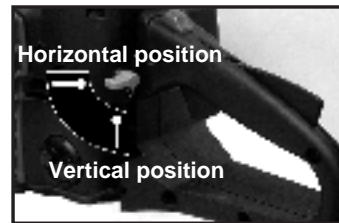

Fig. 3
2. Rotate the choke lever up to the horizontal position (Fig. 3).